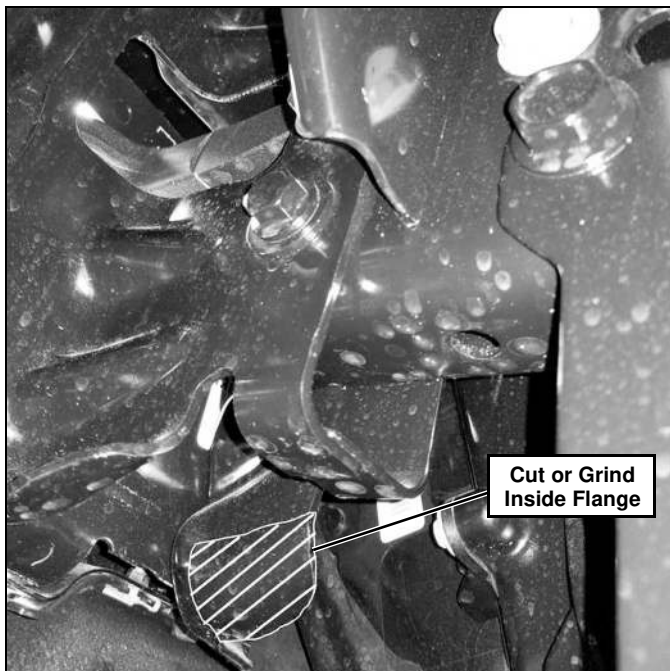

Figure 3
- When the side weldment is fit up to the frame, the lower flange of the bumper bracket will interfere. Cut or grind the inside flange of the bracket for both the driver and passenger sides. (See Figure 3.) Touch up with paint after verifying the cut is sufficient.